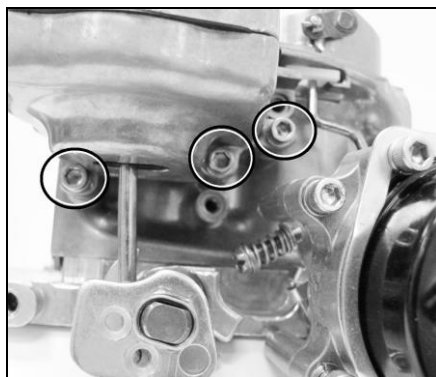

Figure 6
11. On vacuum secondary models, the diaphragm housing is attached to the main body by three screws and the diaphragm rod is held on the throttle shaft linkage by a retainer "C Clip". With these removed, the housing can be pulled from the main body (Fig. 6).